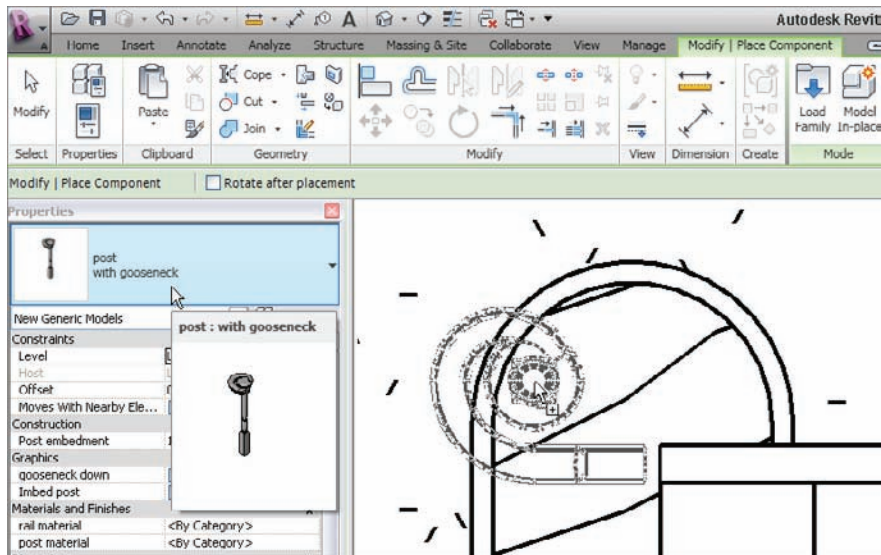

FIGURE 10.72 Placing the post with the gooseneck
1. In the Project Browser, go to the Level 1 floor plan and zoom in on the landing area, as shown in Figure 10.72.
4. As you are placing the post, press the spacebar twice to flip the post into the correct orientation, as shown in Figure 10.72.
5. Place it on the landing slightly away from the stair railing, as shown in Figure 10.72.